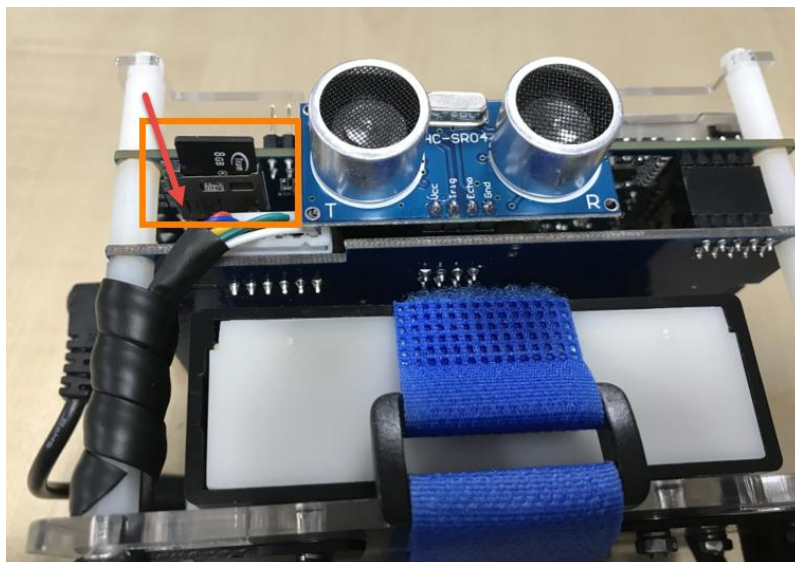

Figure 7-2 Insert the Micro SD card into the robot
- As shown in **Figure 7-2**, insert the Micro SD card into the robot. And set the mode switch(SW10) MSEL[4:0] to "01010", as shown in **Figure 7-3**.